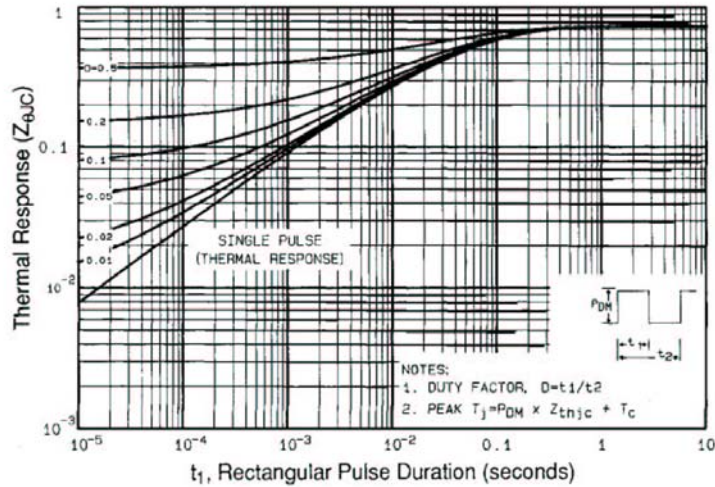

Fig 11. Maximum Effective Transient Thermal Impedance, Junction-to-Case
① Repetitive rating; pulse width limited by max. junction temperature (See Figure 11) ③ I_{SD}≤72A, di/dt≤200A/μs, V_{DD}≤V_{(BR)DSS}, T_J≤175°C